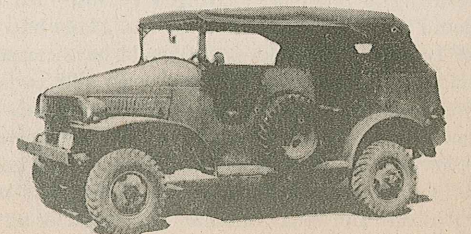

FIG. 5. ½-TON, 4X4, TRUCK
*The ½-ton, 4 x 4.*—This vehicle is fitted with a wide variety of bodies to serve as a command, reconnaissance, pickup or radio truck, as an Infantry weapons carrier, or as a cross-country ambulance (Fig. 5). It also can tow a 37-mm. gun.